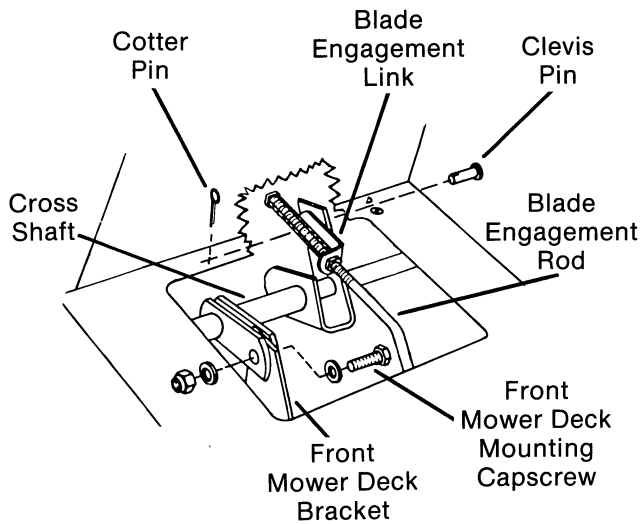

FIG. 10
- C. Remove cotter pin and clevis pin securing blade engagement link to mower drive crank. (Fig. 10)
- D. Remove capscrew, washers and locknut securing cross shaft assembly to front mower deck bracket. (Fig. 10)
- H. Lift blade engagement rod and rotate rod to the left to clear the cross shaft. (Fig. 10)
NOTE: During remounting of mower deck, be sure blade engagement rod is positioned above the cross shaft. (Fig. 10)